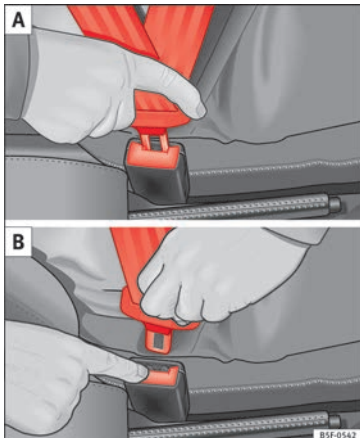

Fig. 9 Positioning and removing the seat belt buckle.
securely locked with an audible click » **Fig. 9 A.**
- Press the red button on the belt buckle » **Fig. 9 B.** The latch plate is released and springs out » **△.**